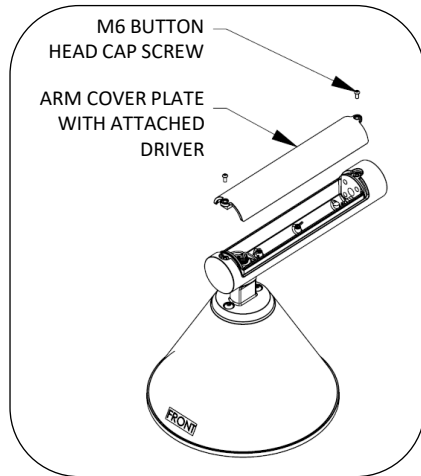

Fig. 3 – REMOVE ARM COVER PLATE
7. Remove luminaire arm cover plate, see Fig. 3. Set hardware aside. Driver components are attached to cover plate, leave installed.